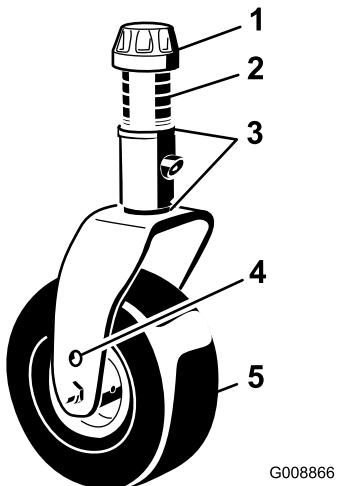
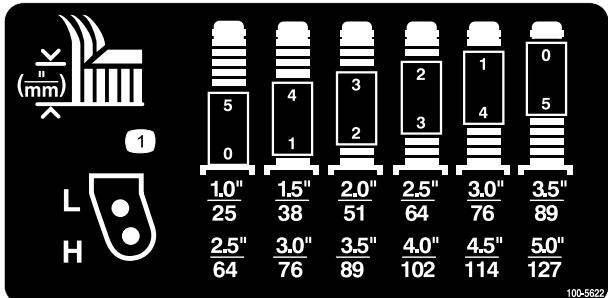

Figure 7
Figure 8
2. Position the castor wheel axles in the same holes in both castor forks. Refer to Figure 7 and Figure 8 to determine the correct holes for the setting.
3. Remove the tensioning cap from the spindle shaft (Figure 7) and slide the spindle out of the castor arm. Put the 2 shims (1/8 inch) onto the spindle shaft as they were originally installed. These shims are required to achieve a level across the entire width of the cutting units. Slide the appropriate number of 1/2 inch spacers onto the spindle shaft to get the desired height-of-cut; then slide the washer onto the shaft.
- Refer to Figure 8 to determine the combinations of spacers for the setting.